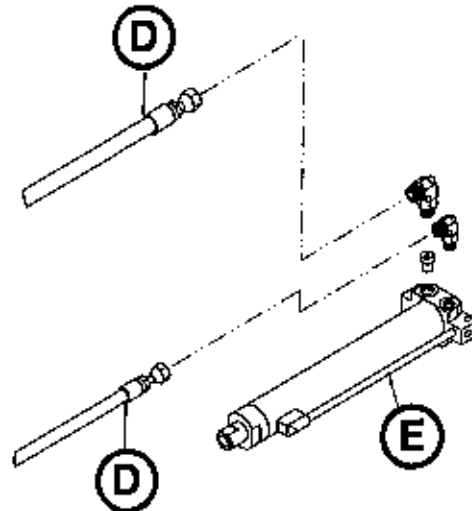

Figure 112
5. Using a 11/16" and 13/16" combination wrench, remove both hoses (D) from the hydraulic cylinder (E) (Figure 112).